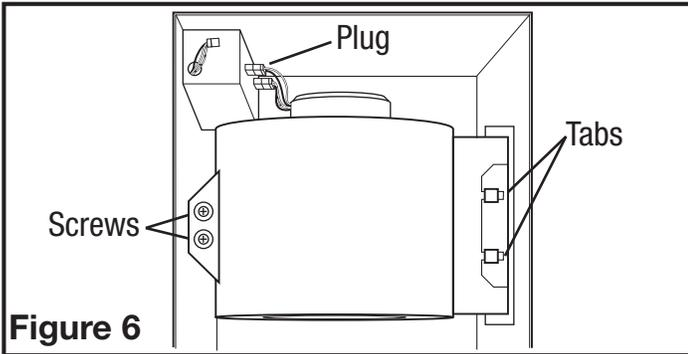
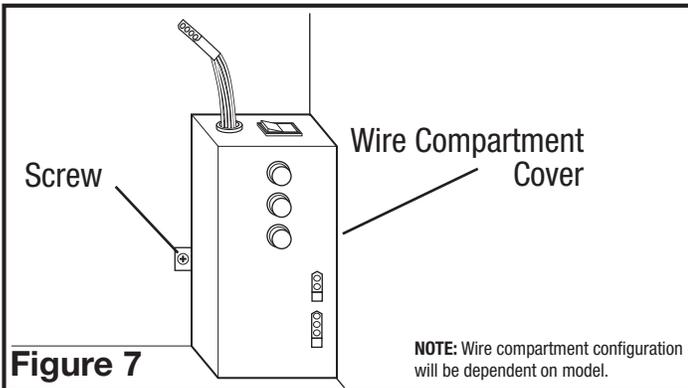

Figure 6
Figure 7
- 1b. **Internal Wire Compartment:** If the motor is already installed in the housing, remove the two screws holding the blower assembly in place. Lift up on the assembly and slide it out of the tabs on the housing (Figure 6). Remove the wire compartment cover screw and place the cover in a secure place (Figure 7).